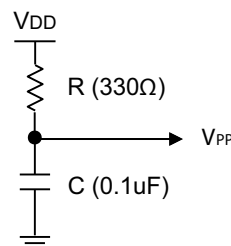

Figure 137. RC Delay Circuit
The TEST pin on the socket board for the MTP Writer must be connected to V_{DD} (5.0V) with RC delay as shown in Figure 137 (only when SPW 2+ and GW-pro2 are used). The TEST pin on this socket board must not be connected to V_{PP} (12.5V), which is generated from the MTP Writer. Therefore, the specific socket board for the S3F8S45 MCU must be used when writing or erasing using the MTP Writer.
► **Note:** If the writer tool you are using is the SPW 2+ or the GW-pro2, refer to Figure 137 on page 360.